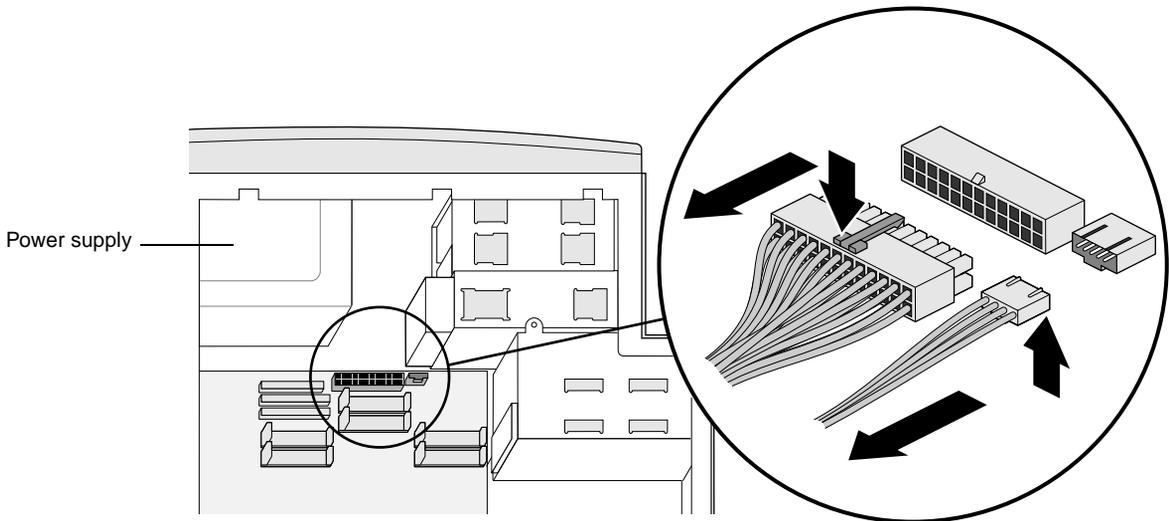

Figure 7-1 Disconnecting the Power Supply Cables from the System Module
- To disconnect the cable on the left, press down on the tab on top of the cable connector and pull the connector out, as shown in Figure 7-1.